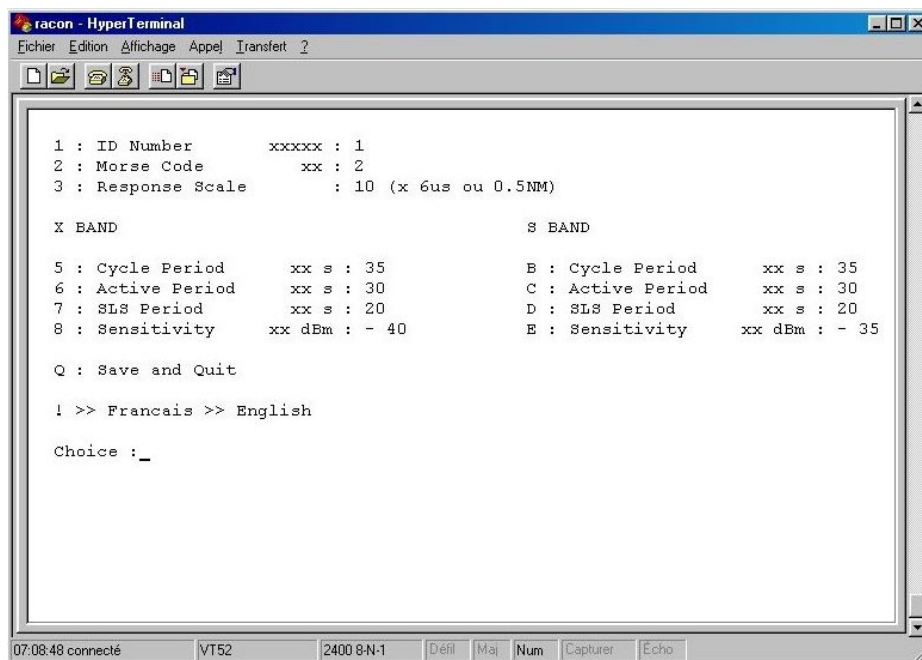

Figure 8 : Parameter management interface
*Figure 8 shows a display example on the HyperTerminal. The language is selected using: